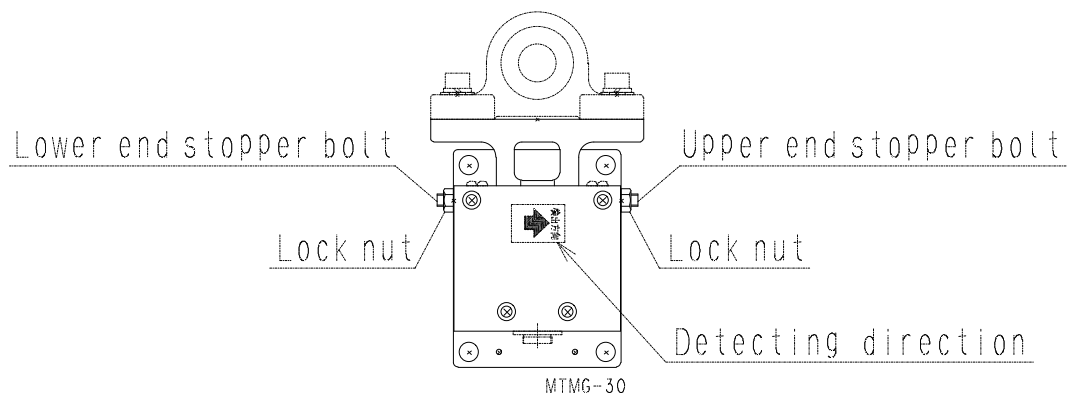

Fig4-1
- (1) Loosening the pickup stopper screws: Refer to Fig.4-1